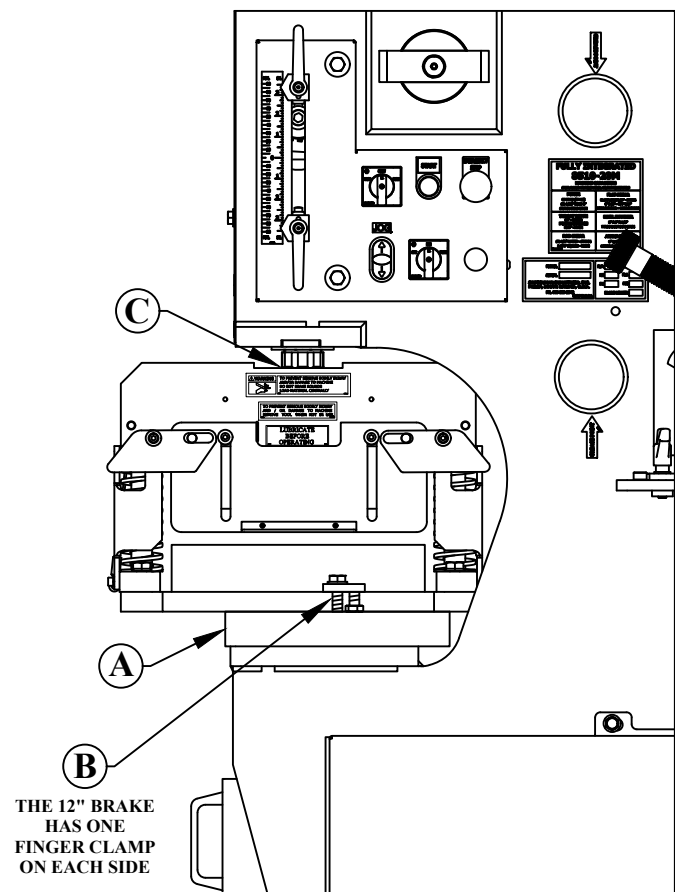

FIGURE 22
SEE FIGURE 22 ON THE FOLLOWING PAGE.
2. Install the brake on the punch bed (A), using the finger clamps (B) provided.
- ▶ **NOTE: THE 12 INCH BRAKE AND 24 INCH BRAKE ARE MOUNTED IN THE PUNCH STATION ON THE FI-85. THE 24 INCH BRAKE NEEDS TO BE MOUNTED AS SHOWN IN FIGURE 22 ON THE FOLLOWING PAGE. THE 12 INCH BRAKE CAN BE MOUNTED IN EITHER CONFIGURATION.**
3. After the tool is secured to the machine, make sure that the punch ram is aligned directly over the center of the brake (C).